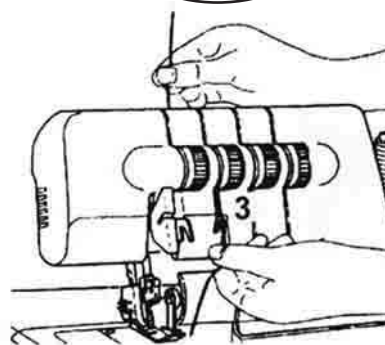

Fig. 26
3. Firmly hold the yarn with your fingers, guide it between and through the discs of the thread tension selector 15 and then pull it down (3) (Fig. 26).